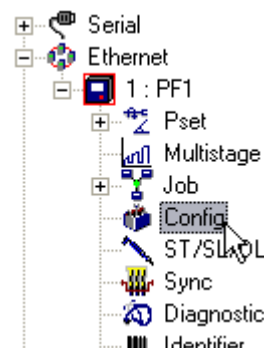

Figure 4: Select Config
4. In the **PF Map**, double click on **Config** (Figure 4).